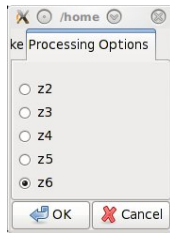

Figure 6.4: OOF Processing Options.
Step 3. Select the maximum order of fit to process from the “Processing Options” tab of the pop-up window (Figure 6.4).